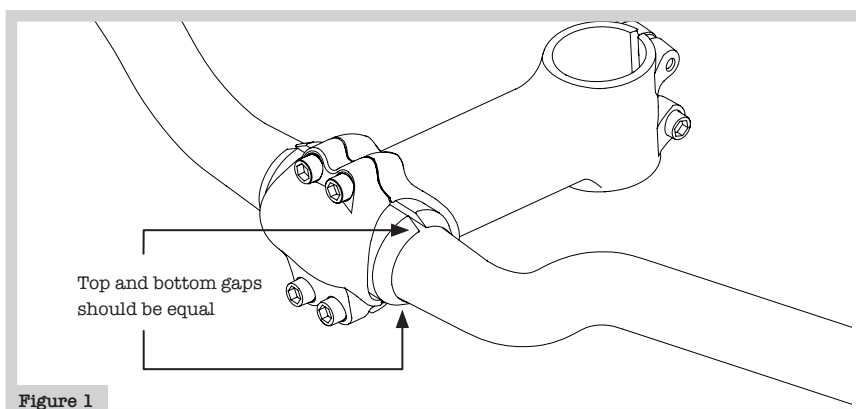

Figure 1
3. The gaps between the two shim pieces top, bottom and sides must be evenly spaced for adequate clamping force (fig. 1). Insert handlebar and shims into the stem's clamping area.